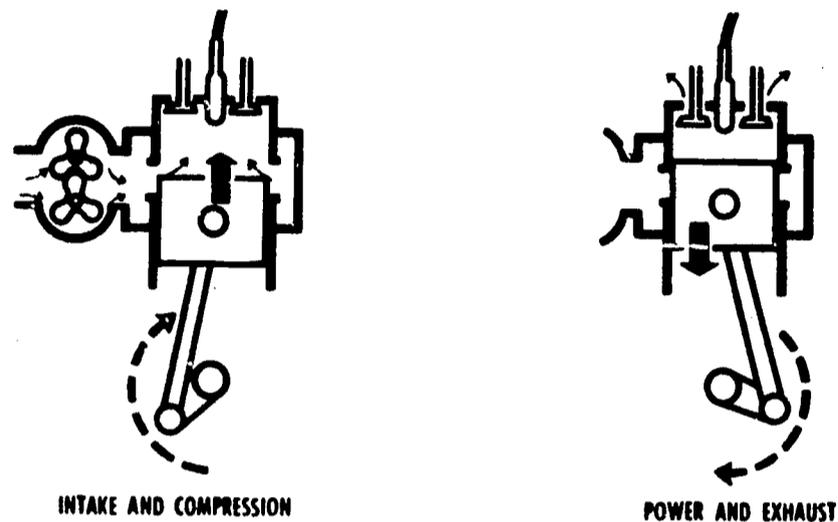

Fig. 1 Two cycle principle.
TWO CYCLE VS FOUR CYCLE -- As we have learned, the two cycle (GM) completes the intake compression power and exhaust in two cycles of the pistons, See Figure 1.